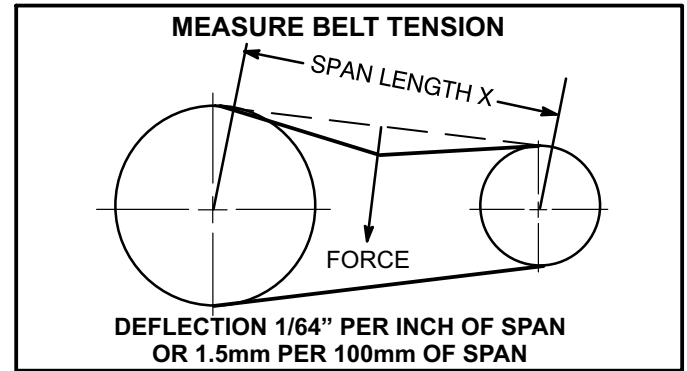

FIGURE 15
- 1- Measure span length X. See figure 15.
- 2- Apply perpendicular force to center of span (X) with enough pressure to deflect belt 1/64" for every inch of span length or 1.5mm per 100mm of span length.